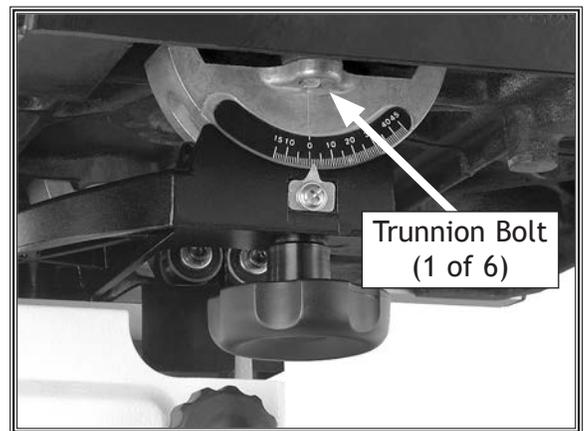

Figure 22. Location of trunnion bolt.
5. Loosen the six trunnion bolts that secure the trunnions to the table (see **Figure 22**).